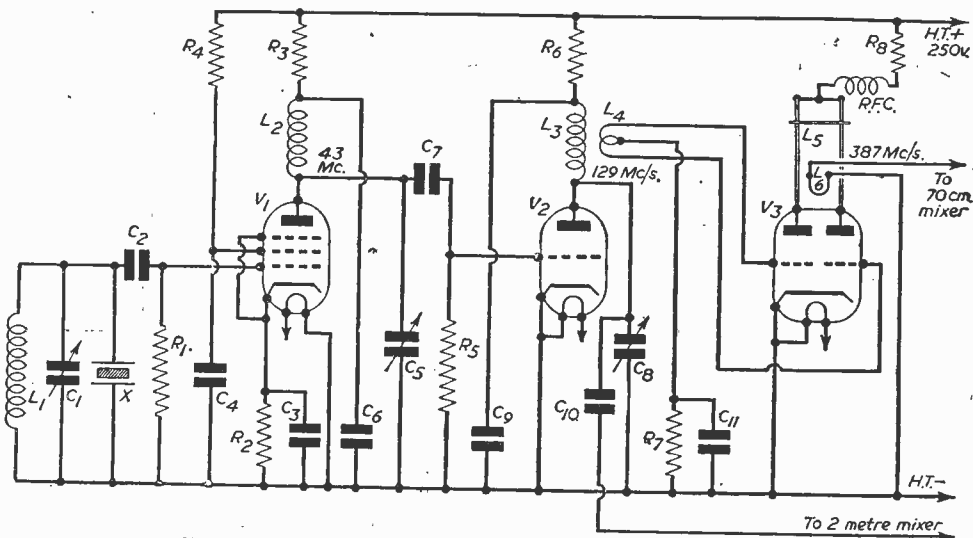

Fig. 8.—A three-valve unit for the 2-metre and 70-cm bands.
With the use of overtone circuits, the production of a crystal-controlled receiver on the 2-metre and 70-cm. bands becomes quite simple. Fig. 8 shows a three-valve unit which will provide ample mixer injection for both a 2-metre and 70-cm. receiver or converter. A pentode overtone oscillator (717A) using, say, a 6,100 kc/s crystal, gives a frequency of about 42.7 Mc/s on the seventh overtone. The output is coupled to one triode section of a 6J6 acting as a tripler to 128.1 Mc/s. The second section of the 6J6 can be used as the mixer of the 2-metre receiver, the I.F. section being tuned from about 15-17 Mc/s to cover the band 144-146 Mc/s with injection at 128.1 Mc/s. The output obtained is also used to drive the final 6J6 as a push-pull tripler
**COIL DATA (Fig. 8)**
**COMPONENTS (Fig. 8)**